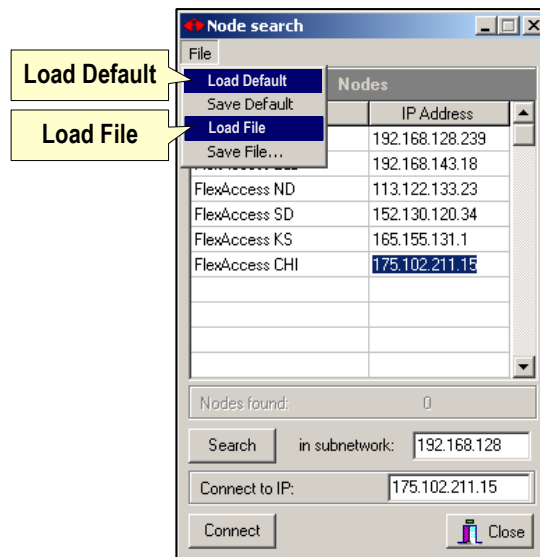

Figure 18 – Loading a Node List
- 1 In the **Node Search** window, click **File** (Figure 18).